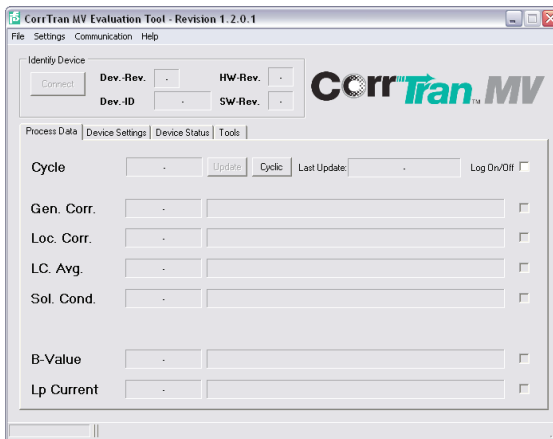

Figure 21. CorrTranMV Evaluation Tool Main (default) Screen
- Open CorrTran MV Evaluation Tool. Figure 21 shows the main (default) screen you will see when opening the program.